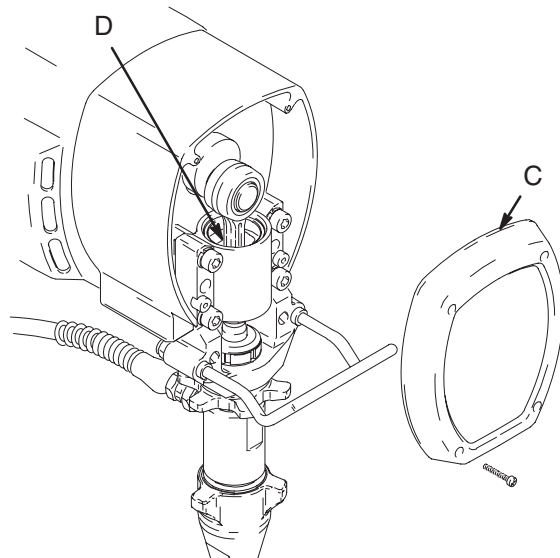

Fig. 7
3. Lubricate bearing housing after every 100 hours of operation. First relieve pressure. Remove front cover (C). Fill bearing housing cavity (D) with SAE 10 non-detergent oil. See Fig. 7.